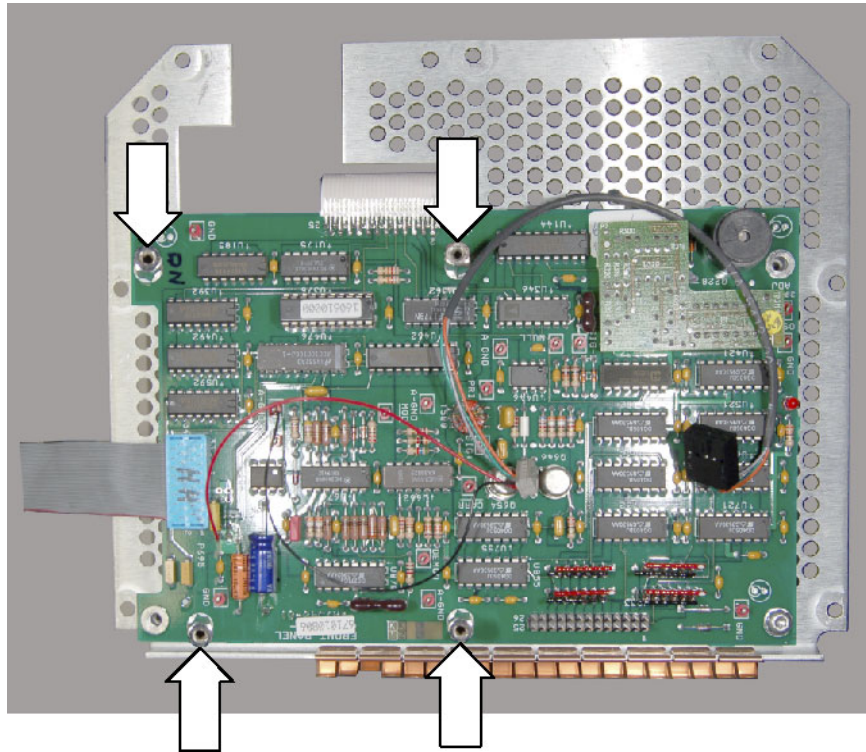

Figure 9: Spacer post locations
- a. Remove four screws from the Keypad board, (see Figure 9) and install the four spacer posts (Tektronix part number 129-1602-xx) into the holes. Torque the spacer posts to 8 in-lbs, using a 1/4 inch socket.